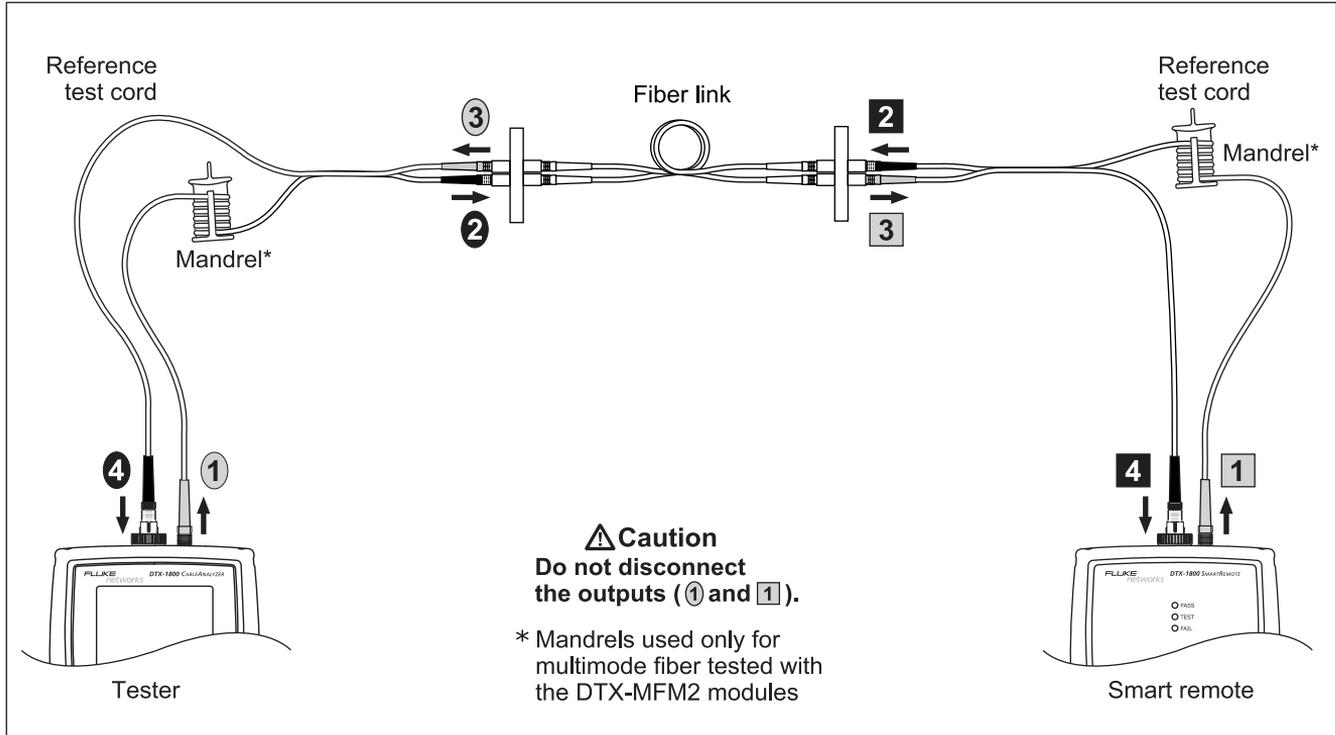

Figure 6-10. Smart Remote Mode Test Connections (Method B)
- 4 Connect the tester to the cabling. Figure 6-10 shows test connections for Method B.